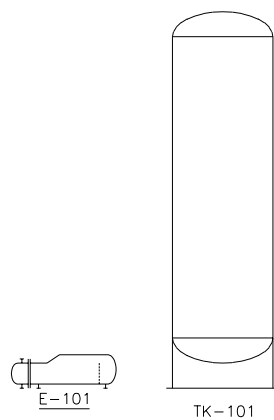

Figure 2-38 P&ID after placing the vessel and the heat exchanger
2. Enter 1.5 as the scale factor; the **Assign Tag** dialog box is displayed. Enter **101** in the **Number** edit box and make sure that the **Place annotation after assigning tag** check box is selected. Next, choose the **Assign** button and specify the position of the annotation tag near the vessel, as shown in Figure 2-38.
3. Choose the **TEMA type BKU Exchanger** from the **TEMA Type Exchangers** area in the **Equipment** tab of the **TOOL PALETTES - P&ID PIP** and place it at the point (7,5). Next, assign tag **E-101** to the heat exchanger. Figure 2-38 shows the P&ID after placing the vessel and the heat exchanger.